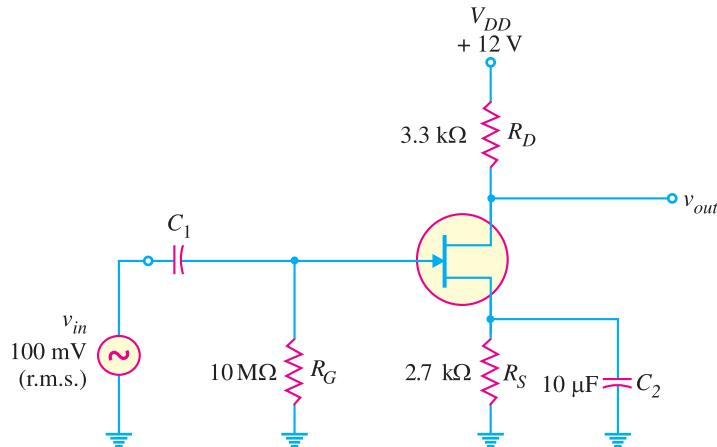

Fig. 19.38
**Example 19.26.** What is the r.m.s. output voltage of the unloaded amplifier in Fig. 19.38? The  $I_{DSS} = 8 \text{mA}$ ,  $V_{GS(\text{off})} = -10 \text{V}$  and  $I_D = 1.9 \text{mA}$ .
**Example 19.27.** If a  $4.7 \text{k}\Omega$  load resistor is a.c. coupled to the output of the amplifier in Fig. 19.38 above, what is the resulting r.m.s. output voltage?